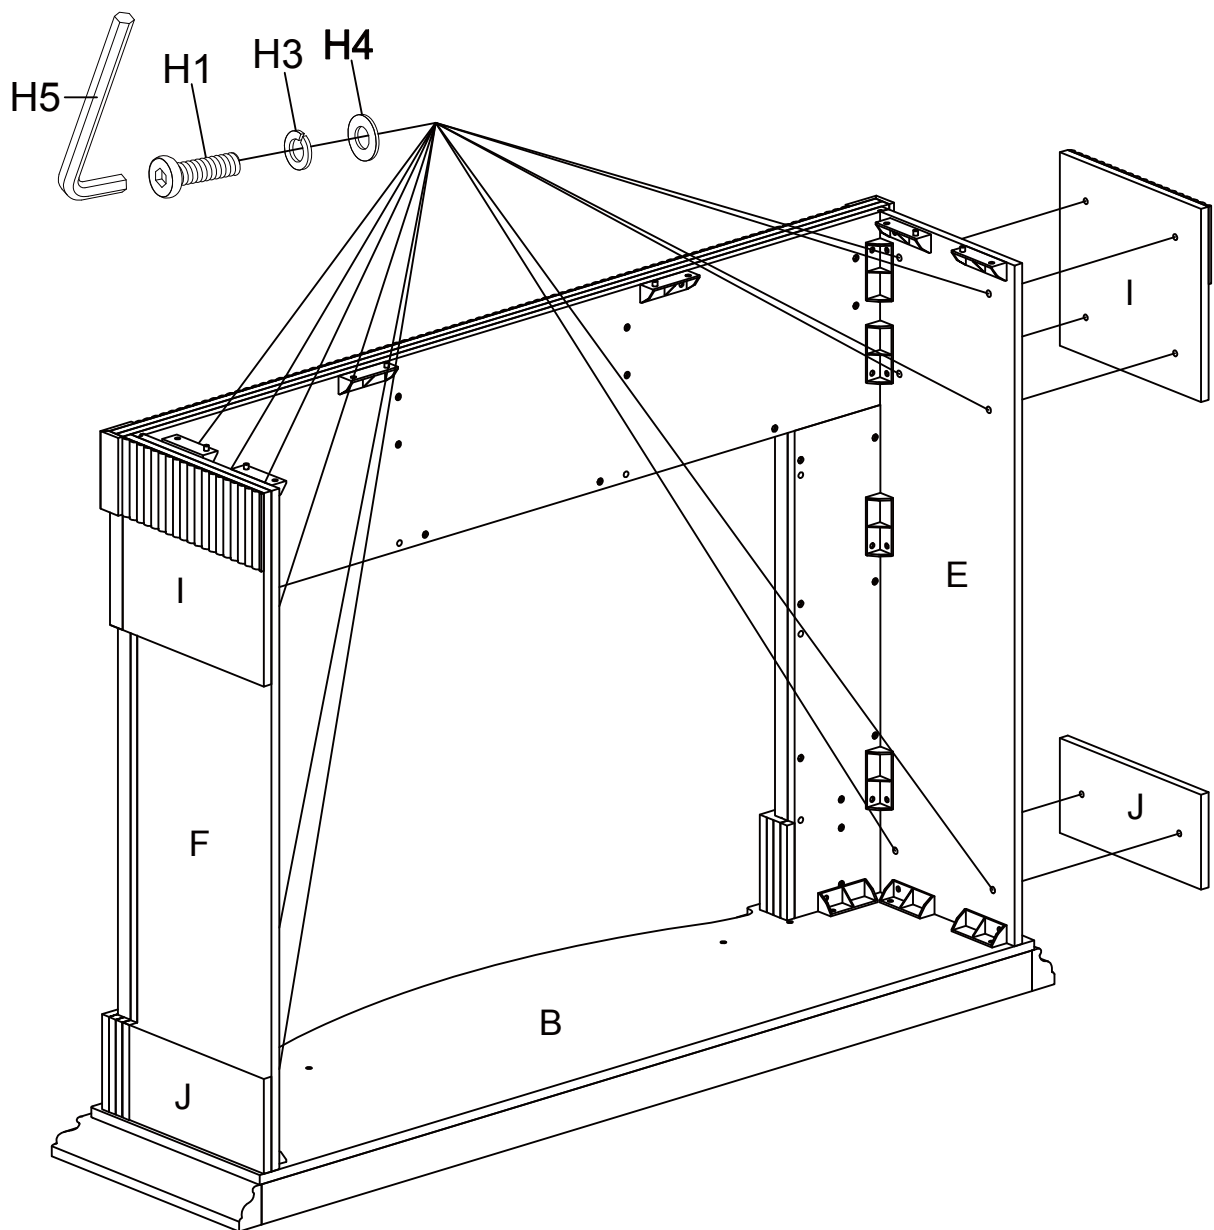

Figure 5
With assistance from another adult, place Upper decorative block (I), Bottom decorative block (J) into the corresponding holes of Left side panel (E) and Right side panel (F). Secure the block in place with Long bolt (H1), Spring washer (H3), Flat washer (H4) using Allen wrench (H5) as shown in figure 5. DO NOT fully tighten bolts in this step for later adjustment.